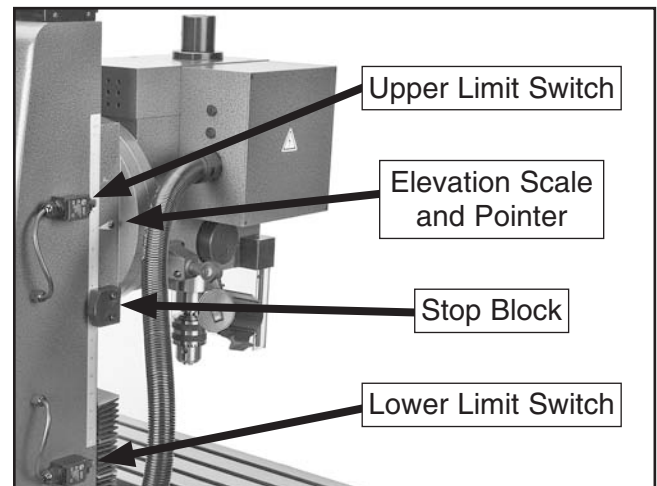

Figure 20. Column switches and scale.
3. Observe the height scale on the left side column shown in **Figure 20** to determine the headstock travel. This scale is broken down in 1/8" graduations.
Note: When the headstock reaches a point of travel where the leadscrew has run out of thread, a stop block (see **Figure 20**) contacts either the upper or lower limit switch to stop the elevation motor from over running the physical limitations of the leadscrew length, which would cause damage.